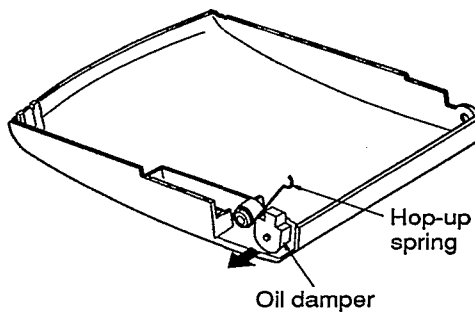

Figure 9
(3) Remove the hop-up spring and oil dumper as shown in figure 9.
(4) remove the CD Panel.